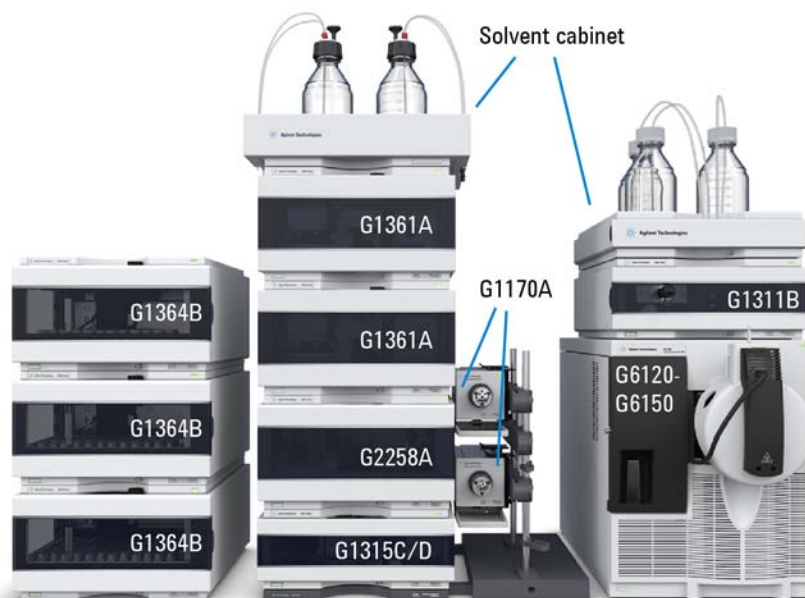

Figure 2 Stack configuration for Agilent 1260 Infinity Purification Solution, combined system with UV- and MS-Detection
- G1364B Fraction Collector (FC) for sample collection, in the following configurations:
- Up to three FCs as cluster with G1170A Valve Drive/G4731A Valve Kit (option shown in Figure 2 on page 15)